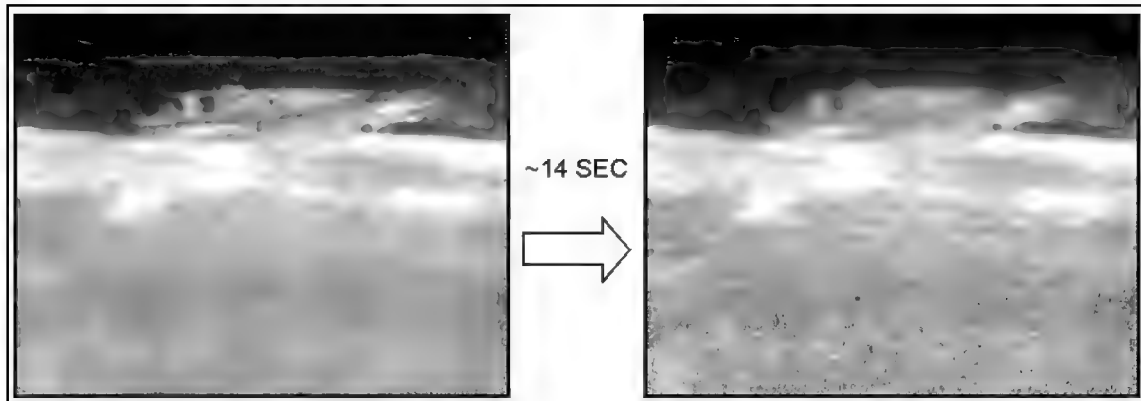

Figure E-16. Fast focus adjustment.
- Major adjustments. When the gunner presses and holds the FOCUS switch in one direction, the focus adjusts at a slow speed for the first three seconds. After that, focus automatically changes to high speed until the gunner either releases the switch or reaches a focus limit (Figure E-16). The high adjustment speed lets him focus quickly on another object that is much closer or much farther away.